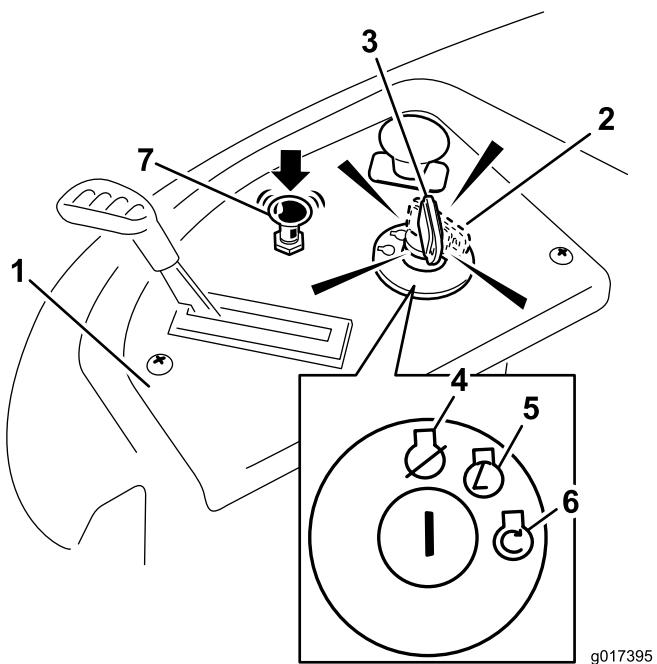

Figure 13
4. Turn the ignition key to Start to energize the starter (Figure 13).
- 5. After the engine starts, push down on the Choke control (Figure 13).
4. Turn the ignition key to Off (Figure 13) and remove the key.